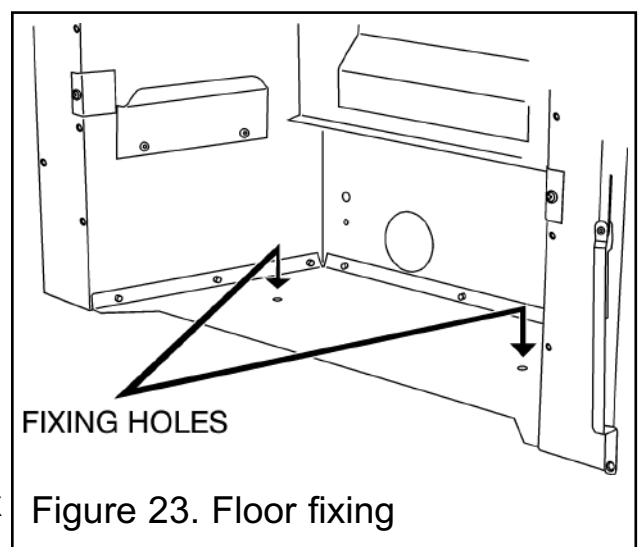

Figure 23. Floor fixing
**8.** Drill a hole into the fireplace floor through each of the two holes in the base of the convection box using a suitably sized masonry drill for the fibre / wooden plugs supplied (See figure 23).